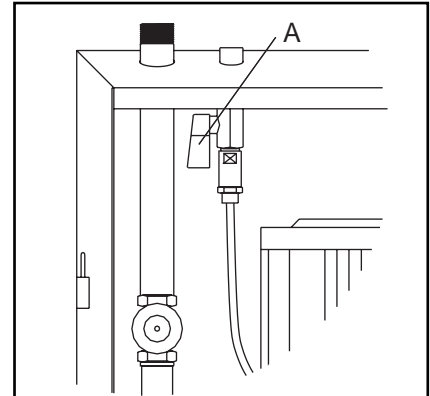

Fig. 15 17492
2. Open the air supply placed inside the main station (see A, Fig. 15).
3. Close the air supply (A, Fig. 15).